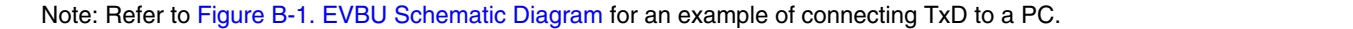

Figure 7-1. SCI Transmitter Block Diagram
serial shift register. The output of the serial shift register is applied to TxD as long as transmission is in progress or the transmit enable (TE) bit of serial communication control register 2 (SCCR2) is set. The block diagram, Figure 7-1, shows the transmit serial shift register and the buffer logic at the top of the figure.